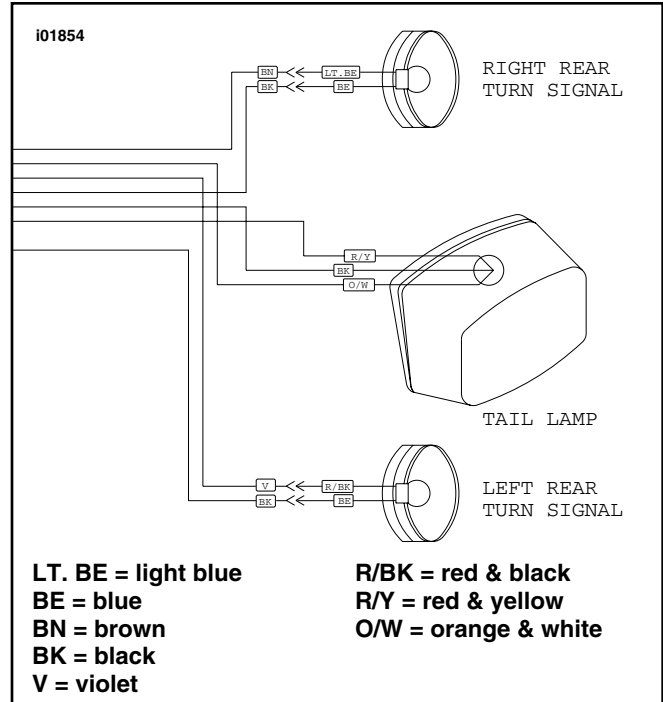

Figure 4. Turn Signal Wiring
- b. Tail lamp and turn signal wiring (3) must fit in space between frame tubing.
- c. Loosely install both T-27 TORX screws and washers (2).
- d. Loosely install bolt (1) to secure new bracket. After bolt has been installed, tighten both T-27 TORX screws (2) securely.
- e. Tighten bolt (1) to 10-12 ft-lbs (14-16 Nm). Remove both T-27 TORX screws and washers (2).
- a. Left and right turn signals-see Figure 4.